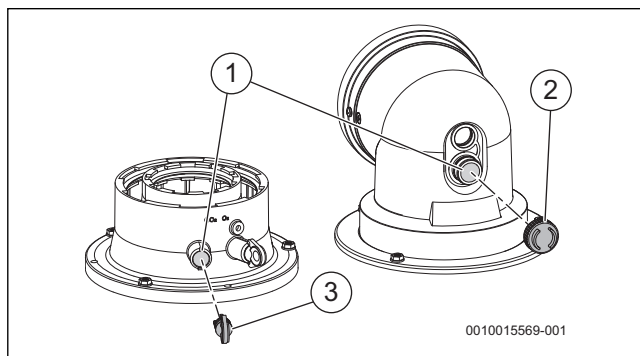

Fig. 68 Combustion test
- Flue gas analysis, (→ figure 68)